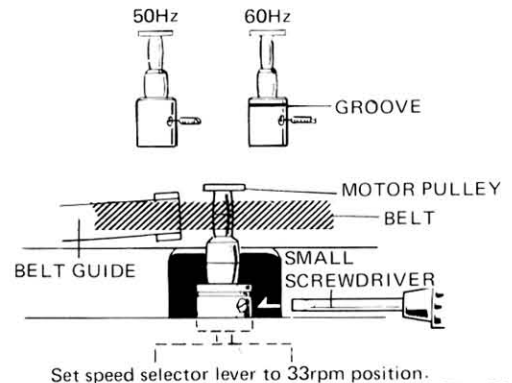

Fig. 21
4. The belt should be positioned in the belt guide and around the center of the upper (smaller) part of the motor pulley. To achieve this, it may be necessary to loosen the pulley once more and adjust its height. Fig. 21.